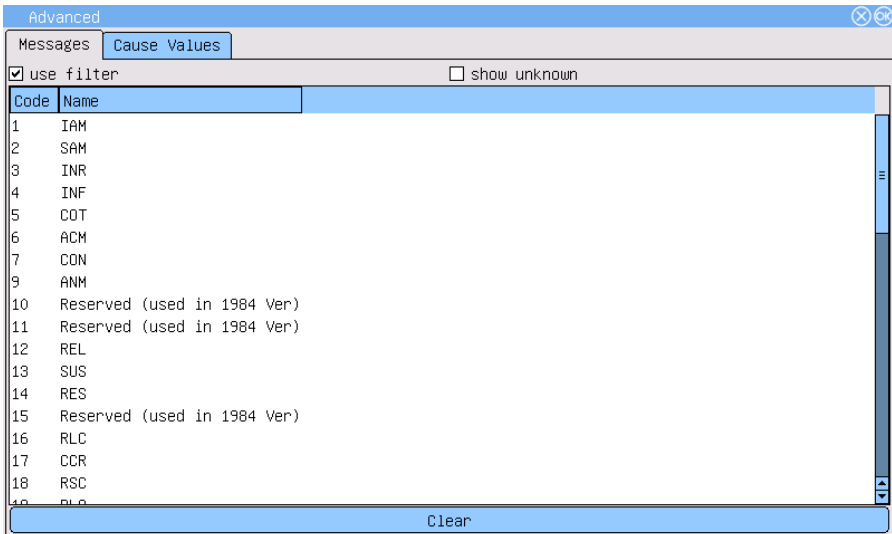

Figure 5.18. SS7/ISUP, EDSS1/PRI, DSS1/PRI: filtering by message type
2. There is the **use filter** option on each tab, which activates the list of message types (see Fig.5.18, page 32). Available message types are determined by the standard selected for compliance analysis.